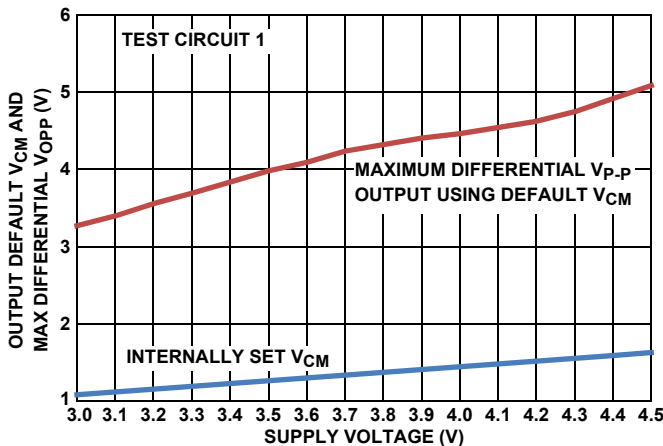
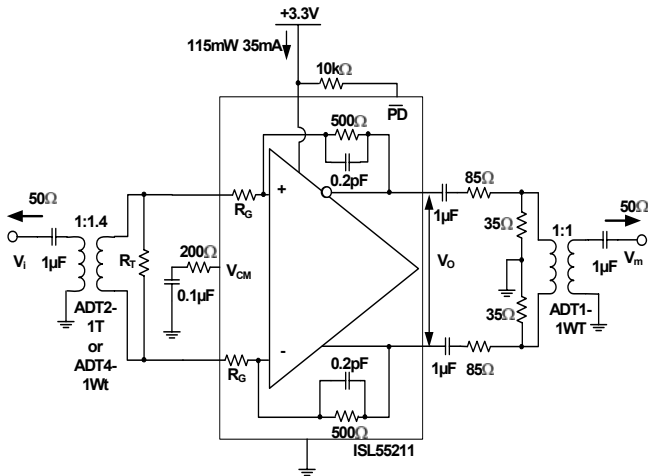
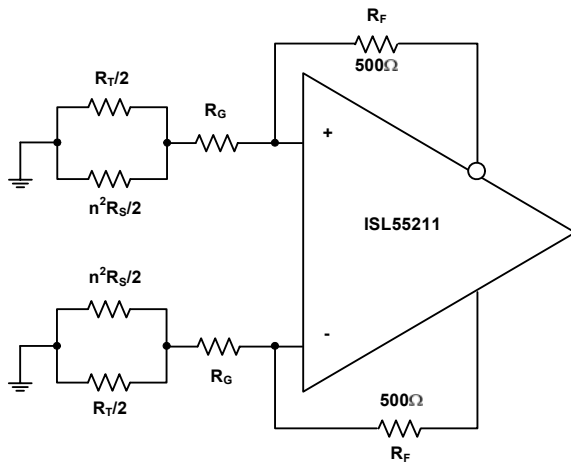
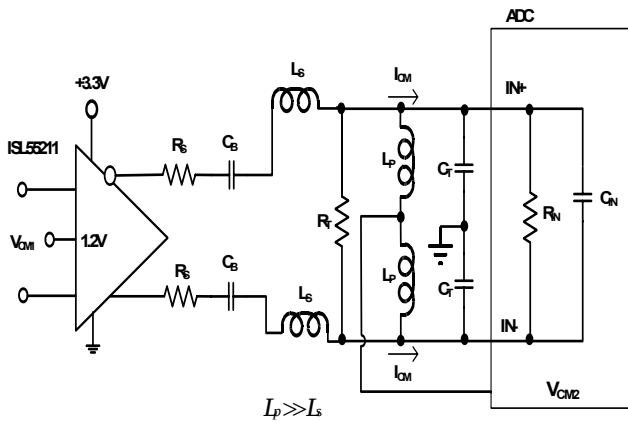

FIGURE 27. DEFAULT V_{CM} AND MAX V_{Opp} vs SUPPLY VOLTAGE
FIGURE 29. TEST CIRCUIT 1
FIGURE 35. NOISE GAIN MODEL FOR THE TRANSFORMER COUPLED INPUT CIRCUIT OF FIGURE 29
FIGURE 37. AC-COUPLED, HIGHER FREQUENCY RLC INTERSTAGE FILTER DESIGN
Test Circuit 1 of Figure 29 forms a starting point for many of the characterization curves for the ISL55211. Since most lab sources and measurement devices are single-ended, this circuit converts to differential at the input through a wideband transformer and would also be a typical application circuit coming from a single-ended source. Assuming the source is a 50Ω impedance, the internal R_G resistors and external R_T are set to provide both the input termination and the gain. Since the inverting summing nodes act as virtual ground points for AC signal analysis, the total termination impedance across the input transformer secondary will be $(2 \cdot R_G) \parallel R_T$. Setting this equal to $n^2 \cdot R_S$ will give a matched input impedance inside the bandwidth of the transformer (where "n" is the turns ratio). The amplifier gain is fixed by the selected input R_G element and the internal 500Ω feedback resistors. While the ISL55211 is internally a Voltage Feedback Design (VFA) to give the lowest possible noise, internal compensation caps hold the bandwidth over gain setting approximately constant at 1.4GHz. For wider small signal bandwidth at lower gains, consider the ISL55210, which provides >2.2GHz at a gain of 12dB.
Working with a transformer coupled input as shown in Figure 29, or with two DC blocking caps from a differential source, means the output common mode voltage set by either the default internal V_{CM} setting, or a voltage applied to the V_{CM} control pin, will also appear as the input common mode voltage. This provides a very easy way to control the ISL55211 I/O common mode operating voltages for an AC-coupled signal path. The internal common mode loop holds the output pins to V_{CM} and, since there is no DC path for an I_{CM} current back towards the input in Figure 29, that V_{CM} setting will also appear as the input common mode voltage. It is useful, for this reason, to leave any input transformer secondary centertap unconnected. The internally set V_{CM} voltage is referenced from the negative supply pin. With a single 3.3V supply, it is very close to 1.2V but will change with total supply voltage across the device as shown in Figure 27.
Most of the characterization curves starting with Figure 29 then get different gains by changing the connections to the two pairs of input R_G connections, as shown on the pin configuration drawing on page 2. Two input turns ratios are intended for Test Circuit 1; either a 1:1.4 turns ratio (ohms ratio of 2) or a 1:2 turns ratio (ohm ratio of 4). The specific transformers shown in Figure 29 are representative of broadband RF transformers but alternate devices and manufacturers of these turns ratio devices are certainly applicable. The output side of this test circuit presents a differential 200Ω load while converting the differential to single-ended through a resistive attenuator and a 1:1 transformer. This inserts approximately a 17dB insertion loss that is removed to report the characteristic curves. For load tests below the 200Ω shown in Figure 29, a simple added shunt resistor is placed across the output pins. For loads > 200Ω, the series and shunt load R 's are adjusted to show that total load (including the 50Ω measurement port transformer) and provide an apparent 50Ω differential source to that transformer. This output side transformer is for measurement purposes only and is not necessary for final applications circuits. There are output interface designs that do benefit from a transformer as part of the signal path as shown in Figure 1. In that case, the 1:1.4 output side transformer becomes part of a filter design and recovers the filter insertion loss from the amplifier output pins to the ADC inputs.
The characterization circuit of Figure 29 shows one possible input stage interface that offers several advantages. Where AC coupling is adequate, the circuit of Figure 29 simplifies the input common mode voltage control. If the source coming into this stage is single-ended, the input transformer provides a zero power conversion to differential. The two gain resistors (R_G in Figure 29) provide both a portion of the input termination impedance and the gain element for the amplifier. For 50Ω systems, these R_G resistors are too high with the turns ratios shown in Figure 29 to provide the full match and an external R_T resistor is required. This R_T element goes away at the highest gain setting using a 1:2 input turns ratio transformer.
This input interface also simplifies the input common mode control. The V_{CM} pin controls the output common mode voltage. In most DC-coupled FDA applications, the input common mode voltage is determined by both this output common mode and the source signal. In a configuration like Figure 29, there is no path for a common mode current to flow from output to input, so the input common mode voltage equals the output. A similar effect could be achieved with just two blocking caps on the two R_G resistors. A DC-coupled, single to differential, configuration will also have a common mode input that is moving with the input signal. Converting to just a differential signal at the amplifier, as in Figure 29, removes any input signal related artifacts from the input common mode making the ISL55211 behave as a differential only VFA amplifier. There is only a very small differential error signal at the inputs set by the loop gain, as in a
maximum differential V_{P-P} swing will be 4x this 0.6V single-ended limit or $2.4V_{P-P}$. Where $+V_S$ is increased, the limit then becomes the 0.9V below V_{CM} , but then the absolute maximum differential V_{P-P} is then $4 \times 0.9V$ to $3.6V_{P-P}$. So for instance, to get this maximum output swing, increase the supply voltage until $+V_S - 1.5V > V_{CM} + 0.9V$. If we assume a V_{CM} voltage of 1.3V for instance, then $1.3V + 0.9V + 1.5V = 3.7V$ will give an unclipped $3.6V_{P-P}$ output capability. The V_{P-P} reported in Figure 27 is an asymmetrically clipped maximum swing. Going 10% above this 3.7V target to 4.1V will be within the recommended operating range and give some tolerancing headroom that would also suggest the V_{CM} voltage be moved up to approximately 1.5V, which coincides with the default output V_{CM} from Figure 27. Operating at +4.1V single supply in a Figure 29 type configuration will give the maximum linear differential output swing of $3.6V_{P-P}$.
The differential inputs internal to the ISL55211 also have operating range limits relative to the supply voltages. Operating in an AC-coupled circuit like Figure 29 will produce an input common mode voltage equal to the outputs. The inputs can operate with full linearity with this V_{CM} voltage down to 1.1V above the $-V_S$ supply. On the default 1.2V output V_{CM} on +3.3V supplies this gives a 100mV guardband on the input V_{CM} voltages. Overriding the default V_{CM} by applying a control voltage to the V_{CM} pin should be done with care in going towards the negative supply due to this limit. On the + side, the maximum input V_{CM} above the $-V_S$ supply is 2V so there is more room to move the output V_{CM} up than down from the default value.
+85°C maximum operating ambient from Figure 27, we get 4.5V*45mA*+120°C/W = +24°C rise above +85°C or approximately +109°C operating T_J maximum - still well below the specified Absolute Maximum operating junction temperature of +135°C.
Adding an input transformer can improve the input referred noise by adding a noiseless voltage gain. Starting from Test Circuit 1 of Figure 29, and assuming the source shows a matched broadband source R_S that will be matched by the input referred parallel combination of 2*R_G || R_T, a noise gain analysis circuit can be developed as shown in Figure 35.
Stepping through the 3 gain settings with two input transformers will allow the noise gain to be calculated for the circuit of Figure 35, which is all that is needed in Equation 1 to arrive at an output differential noise (since R_F is fixed at 500Ω). Doing this gives Table 4.
2. AC-coupled, higher frequency range interstage filter design. This design replaces the R_T resistors in Figure 35 with large valued inductors and implements the filter just using shunt resistors at the end of the RLC filter. In this case, the ADC V_{CM} can be tied to the centerpoint of the bias path inductors (very much like a Bias-T) to provide the common mode voltage and current to the ADC inputs. These bias inductors do limit the low frequency end of the operation where, with 1 μ H values, operation from 10MHz to 200MHz is supported using the approach of Figure 37.